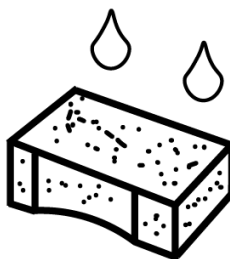

Figure 19
- Oil the filter carefully, Fig. 19. Use engine oil.